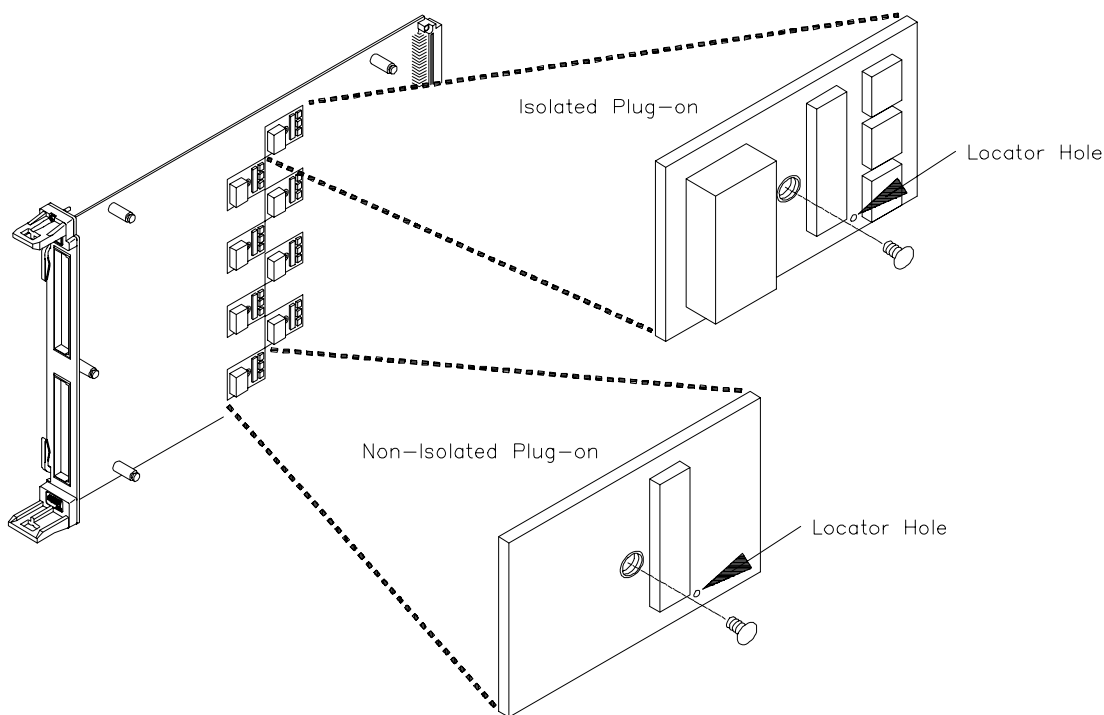

Figure E-4. Installing Plug-on Modules
4. Use Figure E-4 to identify isolated or non-isolated plug-on modules. Install the new plug-on module as shown in Figure E-4. Note the locator pin on the main board or expansion board that ensures correct orientation. Replace the screw in the plug-on module.